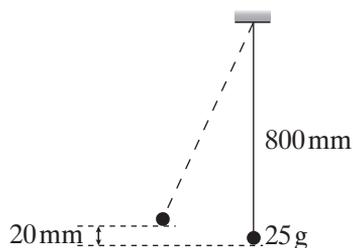

Figure 3
- 3 A simple pendulum consists of a 25 g mass tied to the end of a light string 800 mm long. The mass is drawn to one side until it is 20 mm above its rest position, as shown in **Figure 3**. When released it swings with simple harmonic motion.